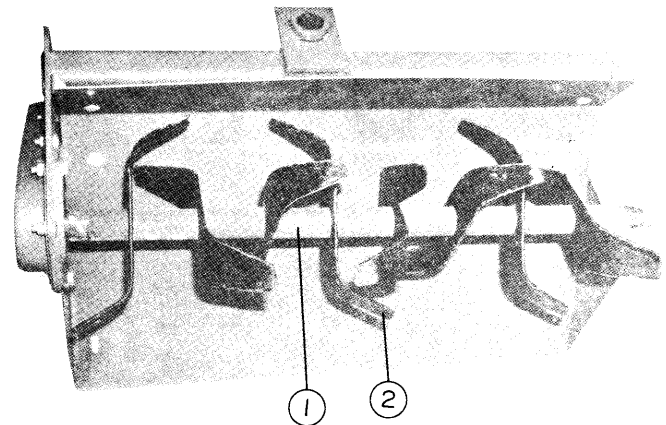

Fig. 7
5. Slide a spacer, tine, spacer, tine, spacer, etc. on the shaft. Make sure the cutting edge of the tine faces the direction of the shaft rotation. The shaft rotates counter-clockwise as viewed from the hoe tine installation side. See fig. 7.